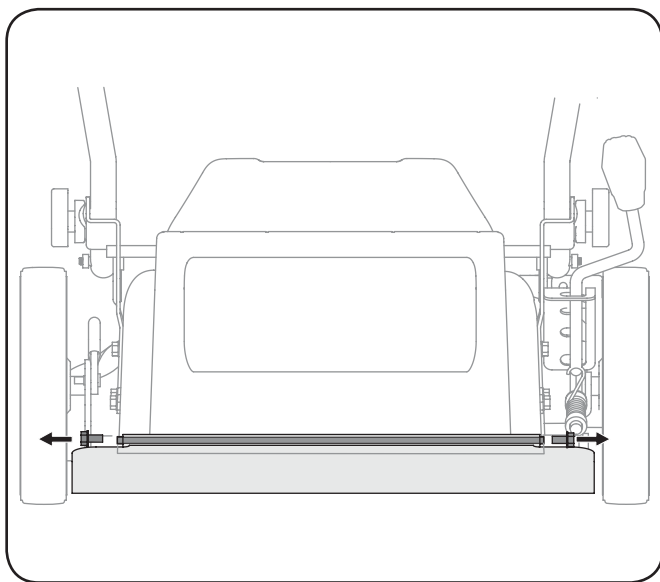

Figure 6-3
2. Press shield in on either side to remove from hole. See Fig. 6-3.